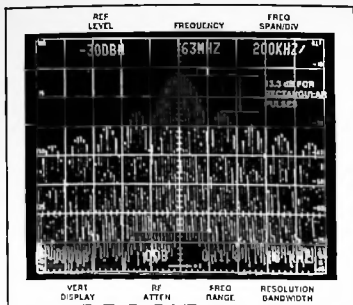
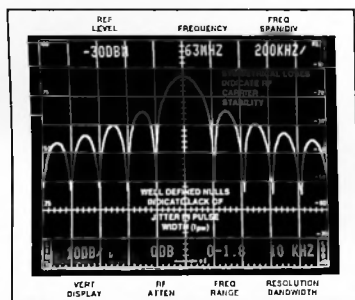

Figure 26. Frequency domain display of pulse waveform.
Figure 27. Envelope of pulsed signal
The same pulse waveform when displayed in the frequency domain would appear as shown in Fig. 26. Note that the pulse width (t_{pw}) and
display shown in Fig. 27. We can see that the amplitudes in Fig. 26 lie within the area described by Fig. 27. The big question is "Why do we see discrete signals in Fig. 26 if the waveform is composed of an infinite series of frequencies?"
The answer lies in the fact that swept frequency analyzers only analyze a specific frequency at a specific time as the beam traces across the screen. Each time a pulse is generated, the analyzer will analyze the amplitude of the frequency component at the frequency being analyzed at that instant. If the pulse repetition period (t_r) of the pulse was 1 ms and the analyzer was sweeping through the frequency spectrum at 1 ms/div, we would see one spectral line/div. If we slowed the sweep speed to 100 ms/div, we would obtain 100 spectral lines/div, which would clearly show the envelope display of Fig. 27. We need to remember that although we are varying the sweep speed, we are not changing the span of the frequencies being analyzed, just the rate at which we are analyzing them. To compute the repetition rate from Fig. 26, determine the number of divisions/spectral line and multiply by the sweep speed/division.
1. For a rectangular pulse, the 1st sidelobe should be approximately 13.3 dB below the main lobe (see Fig. 26).
2. If the nulls are not well defined, the pulsewidth (t_{pw}) is FM'ing (see Fig. 27).